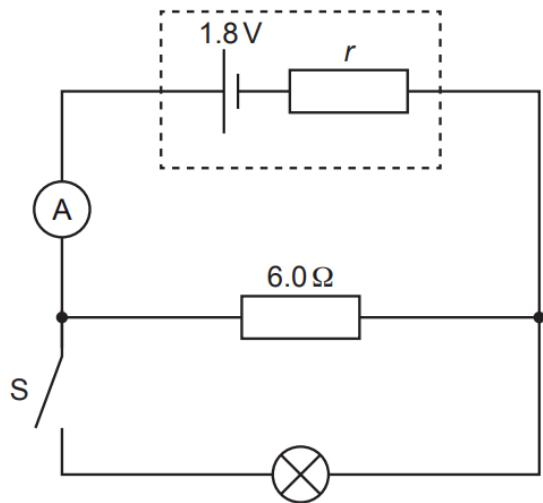
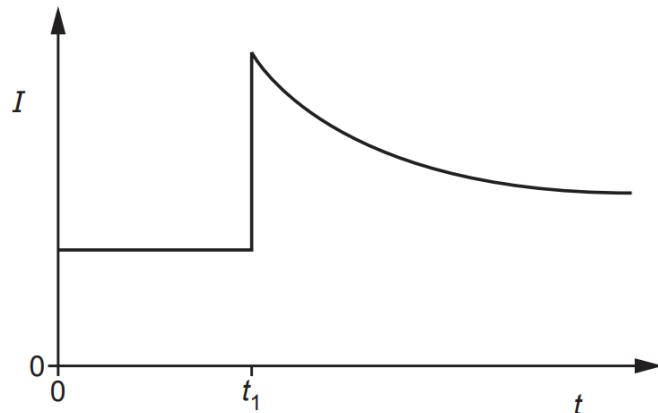

Fig. 5.2
Fig. 5.3
- (d) A cell of electromotive force (e.m.f.) 1.8 V and internal resistance r is connected in parallel with a resistor of resistance 6.0 Ω and a filament lamp, as shown in Fig. 5.2.
At time t_1 , switch S in Fig. 5.2 is closed. Fig. 5.3 shows the variation with time t of the ammeter reading I .
By considering the effect of the lamp on the total resistance of the circuit, explain the variation of the ammeter reading shown in Fig. 5.3.